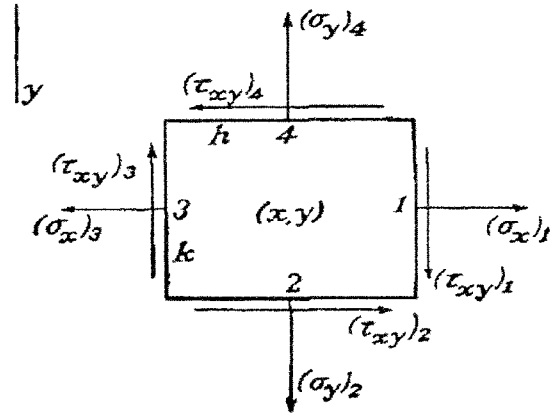

FIG. 19.
13. Differential Equations of Equilibrium. We now consider the equilibrium of a small rectangular block of edges h, k , and unity (Fig. 19). The stresses acting on the faces 1, 2, 3, 4, and their positive directions are indicated in the figure. On account of the variation of stress throughout the material, the value of, for instance, σ_x is not quite the same for face 1 as for face 3. The symbols $\sigma_x, \sigma_y, \tau_{xy}$ refer to the point x, y , the mid-point of the rectangle in Fig. 19. The values at the mid-points of the faces are denoted by $(\sigma_x)_1, (\sigma_x)_3$, etc. Since the faces are very small, the corresponding forces are obtained by multiplying these values by the areas of the faces on which they act.¹